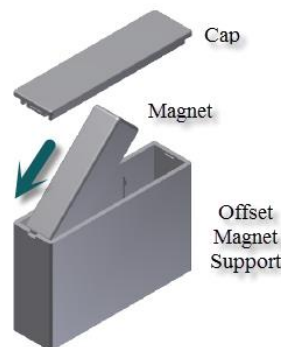

Figure 8
4. Take the offset magnet support and the magnet. Push one end of the magnet into the opening in the offset magnet support, holding the magnet at an angle as shown in figure 8. Push the remainder of the magnet down into the opening to seat on the internal supports.
11. Remove the red cover film from the adhesive strip and press the offset magnet onto the glass of the pool gate opposite the transmitter assembly and with the edge of the offset magnet nearest the transmitter assembly flush with the edge of the pool gate glass (figure 8).